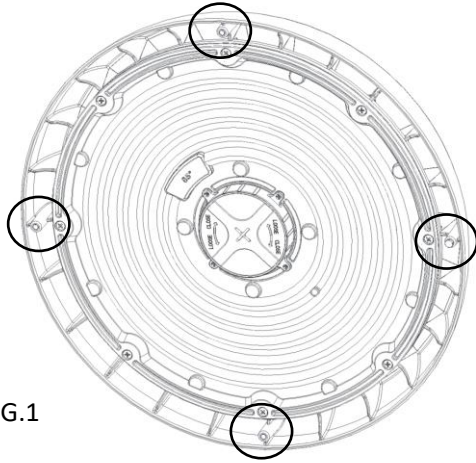

FIG.1
- 1) Locate the (4) mounting holes on the face of the RB4. (FIG.1)